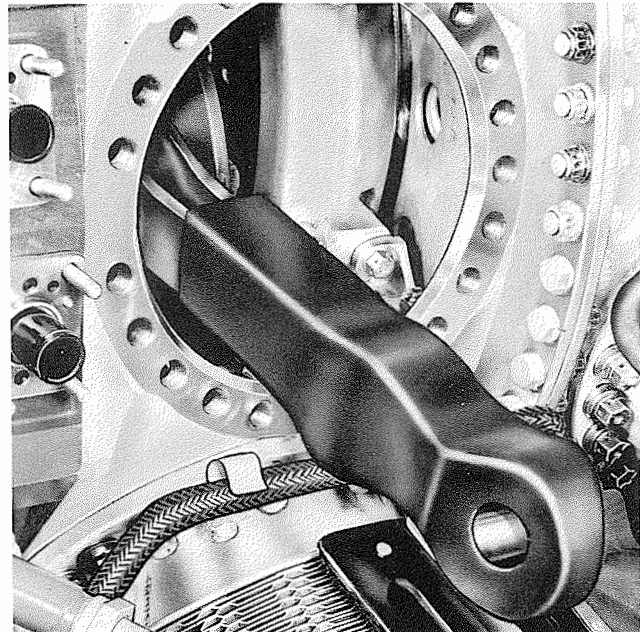
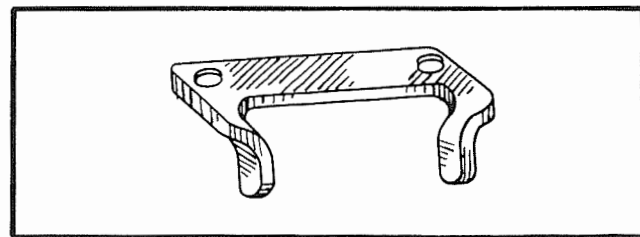

Figure 7-68. Protector Installed on Articulated Rod
Figure 7-69. Master Rod Guide Plate
e. Install protector 808576, shown in figure 7-68, on the articulated rods, or guide plate 806915 (figure 7-69) on cylinder No. 1 or 2 mounting pad for master rod protection.